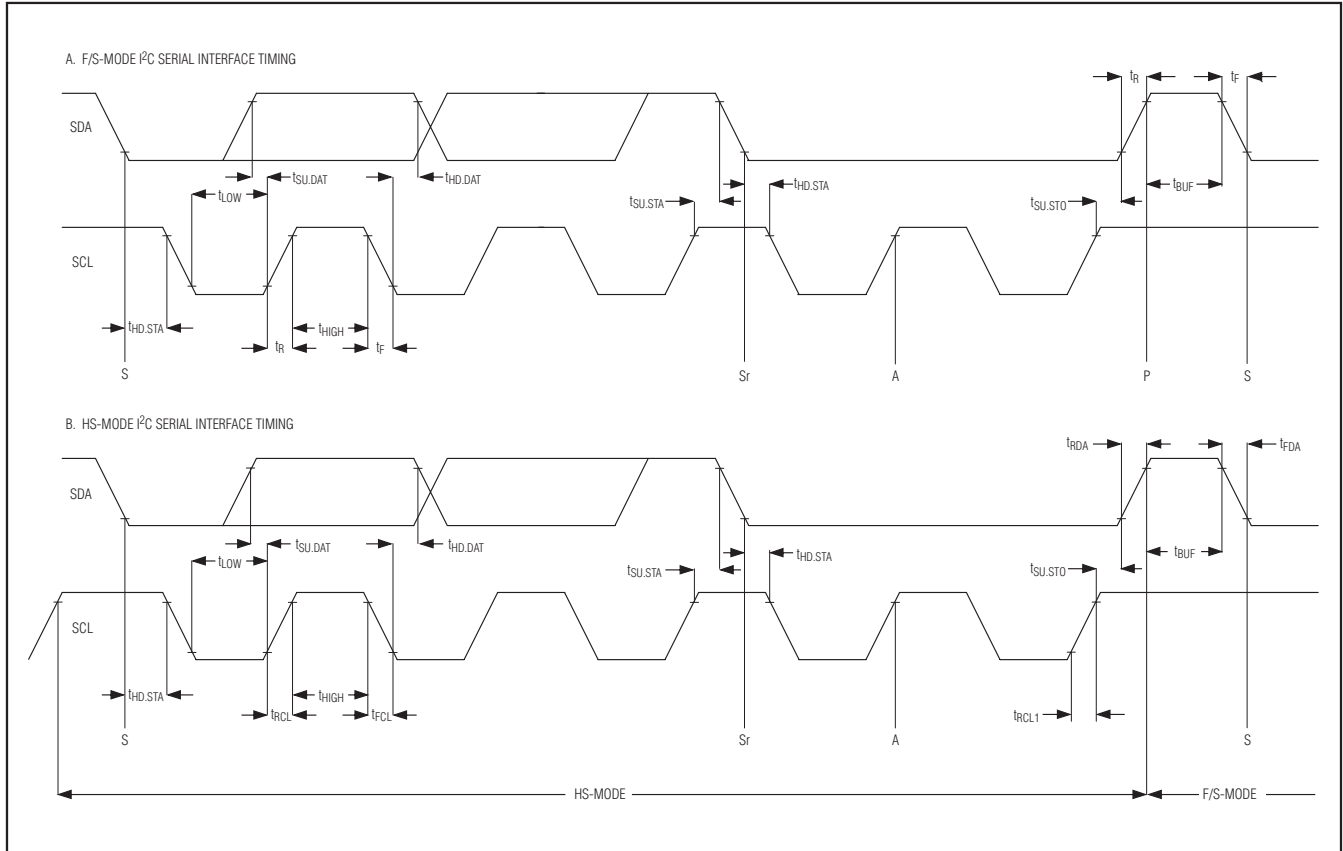

Figure 1. I2C Serial Interface Timing
**Note 12:** A master device must provide a data hold time for SDA (referred to VIL of SCL) in order to bridge the undefined region of SCL's falling edge (Figure 1).
At power-up, the MAX1036–MAX1039 bus timing defaults to fast mode (F/S-mode) allowing conversion rates up to 44ksps. The MAX1036–MAX1039 must operate in high-speed mode (HS-mode) to achieve conversion rates up to 188ksps. Figure 1 shows the bus timing for the MAX1036–MAX1039's 2-wire interface.